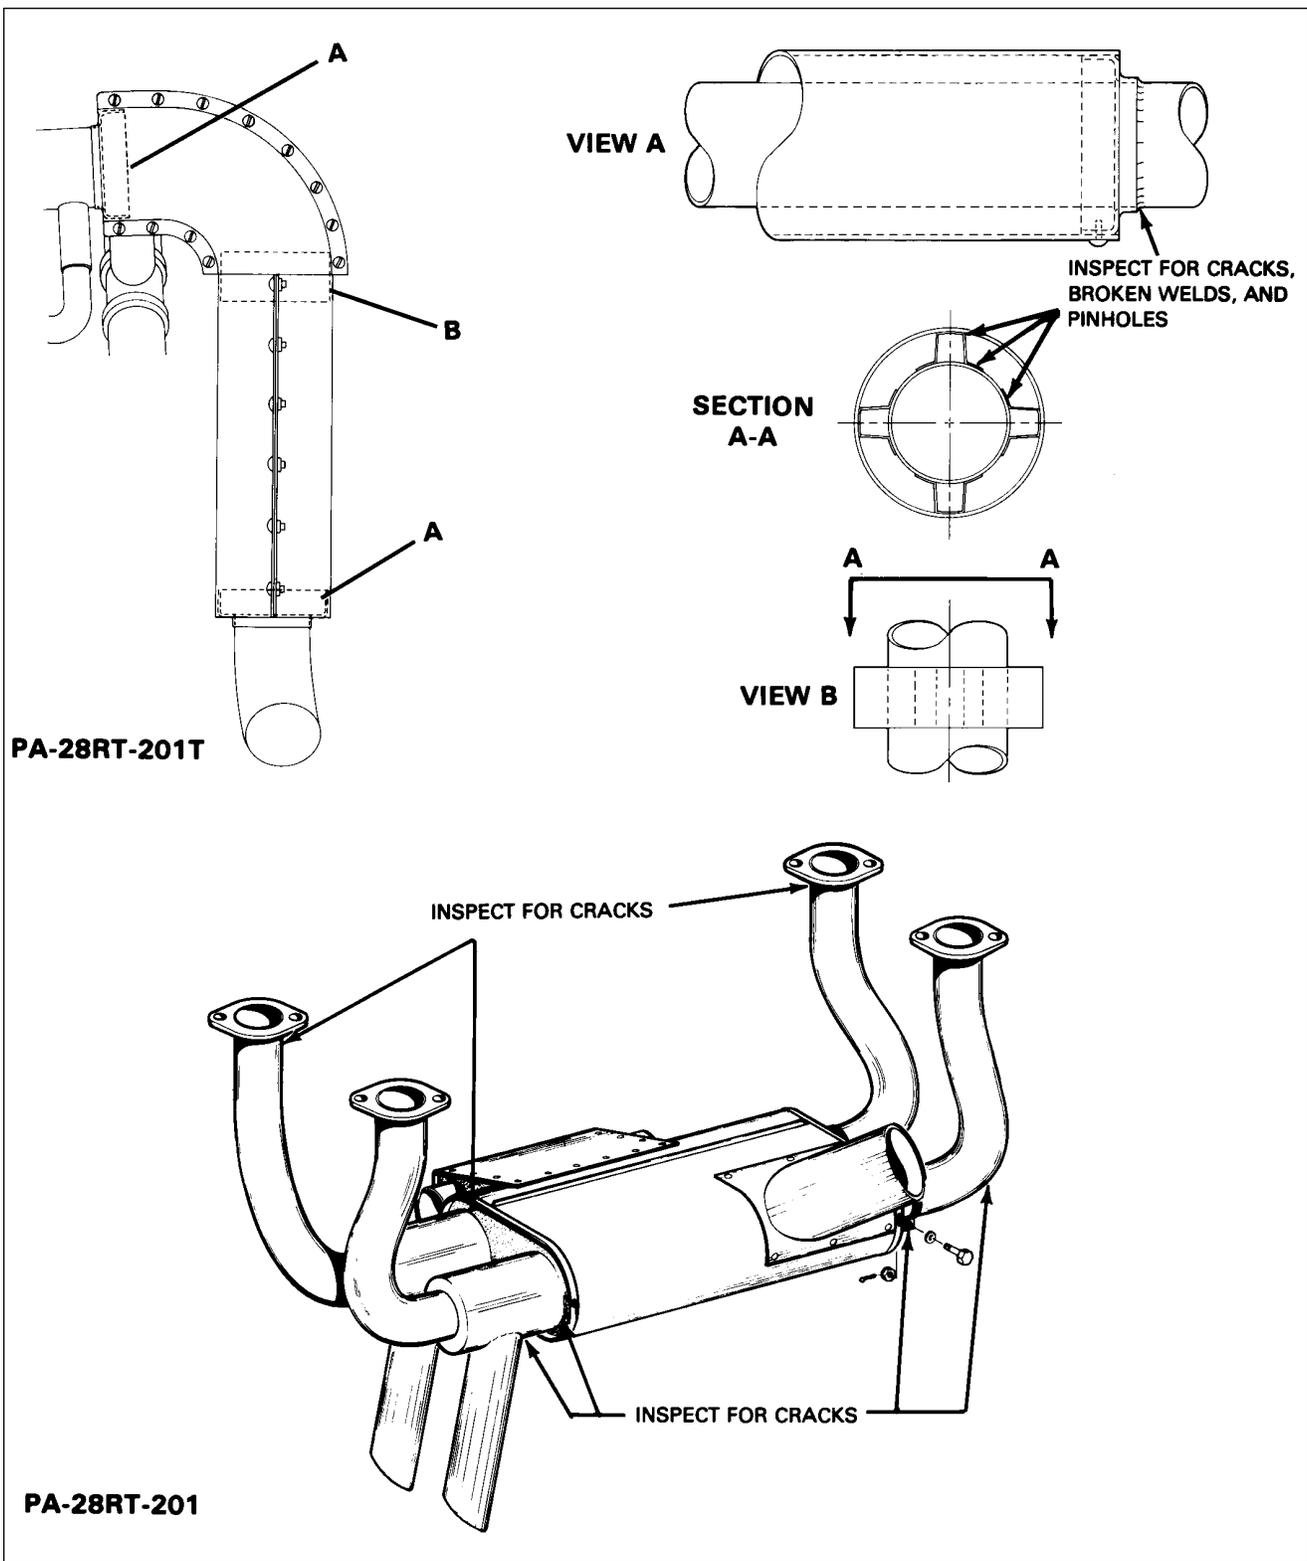

Figure 78-1. Exhaust System Inspection Points
**INSPECTION OF EXHAUST SYSTEM.** (Refer to Figure 78-1.)